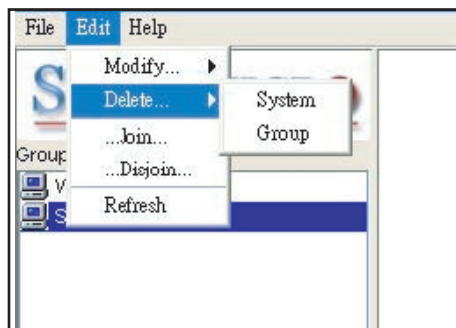

Figure 2-7
Step 5. As shown in Figure 2-7,
Select a system in the System Window you want to modify and then click "Edit>Modify...>System" from the pull-down menu shown in Figure 2-7 to modify it.
Select a system in the System Window you want to delete, and then click "Edit>Delete...>System" from the pull-down menu shown in Figure 2-7 to delete it.
Select a group in the Group Window you want to modify and then click "Edit>Modify...>Group" from the pull-down menu shown in Figure 2-7 to modify it.
Select a group in the Group Window you want to delete and then click “Edit>Delete...>Group” from the pull-down menu shown in Figure 2-7 to delete it.
Select a group in the Group window and select a system in the System Window, then click “Edit>...Join...” from the pull-down menu shown in Figure 2-7 to have the selected system join the desired group.
Double click the group you want to disjoin a system from. The members of that group will appear in the System Window. Then, select the system you want to disjoin and click “Edit>...Disjoin...” from the pull-down menu shown in Figure 2-7.